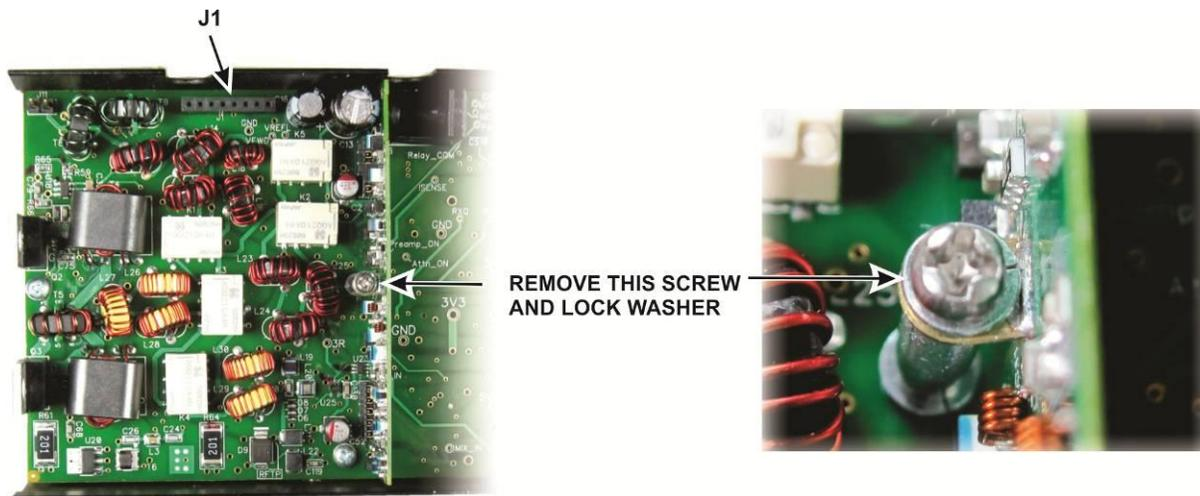

Figure 3. Removing Retaining Screw and Lock Washer.
- ☐ Remove the screw and lock washer shown in Figure 3. Note that a tab held by the screw holds the adjacent KXBPF board in place. Take care not to dislodge the KXBPF board while installing the KXAT2 board in the next step.
- ☐ Position the KXAT2 board as shown over the area of the KX2 RF module between the KXBPF board and then end. Connector J1 on the KXAT2 board plugs into J1 on the RF module shown in Figure 3. When J1 is properly mated the hole for the screw and washer will be aligned over the spacer.